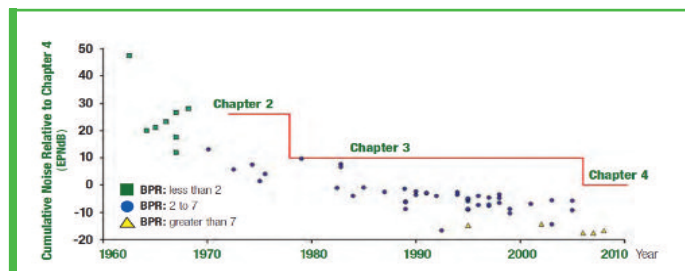

Figure 1 - Noise envelope for ICAO Chapters and related Engine Technology
The Defra study described above considered the effect of the EU Directives (item 7)1 that implemented the requirements of the ICAO Annex 16 Chapters2 and drove the technological development of quieter aircraft (item 8). These inter-related factors are shown in Figures 1 and 2.